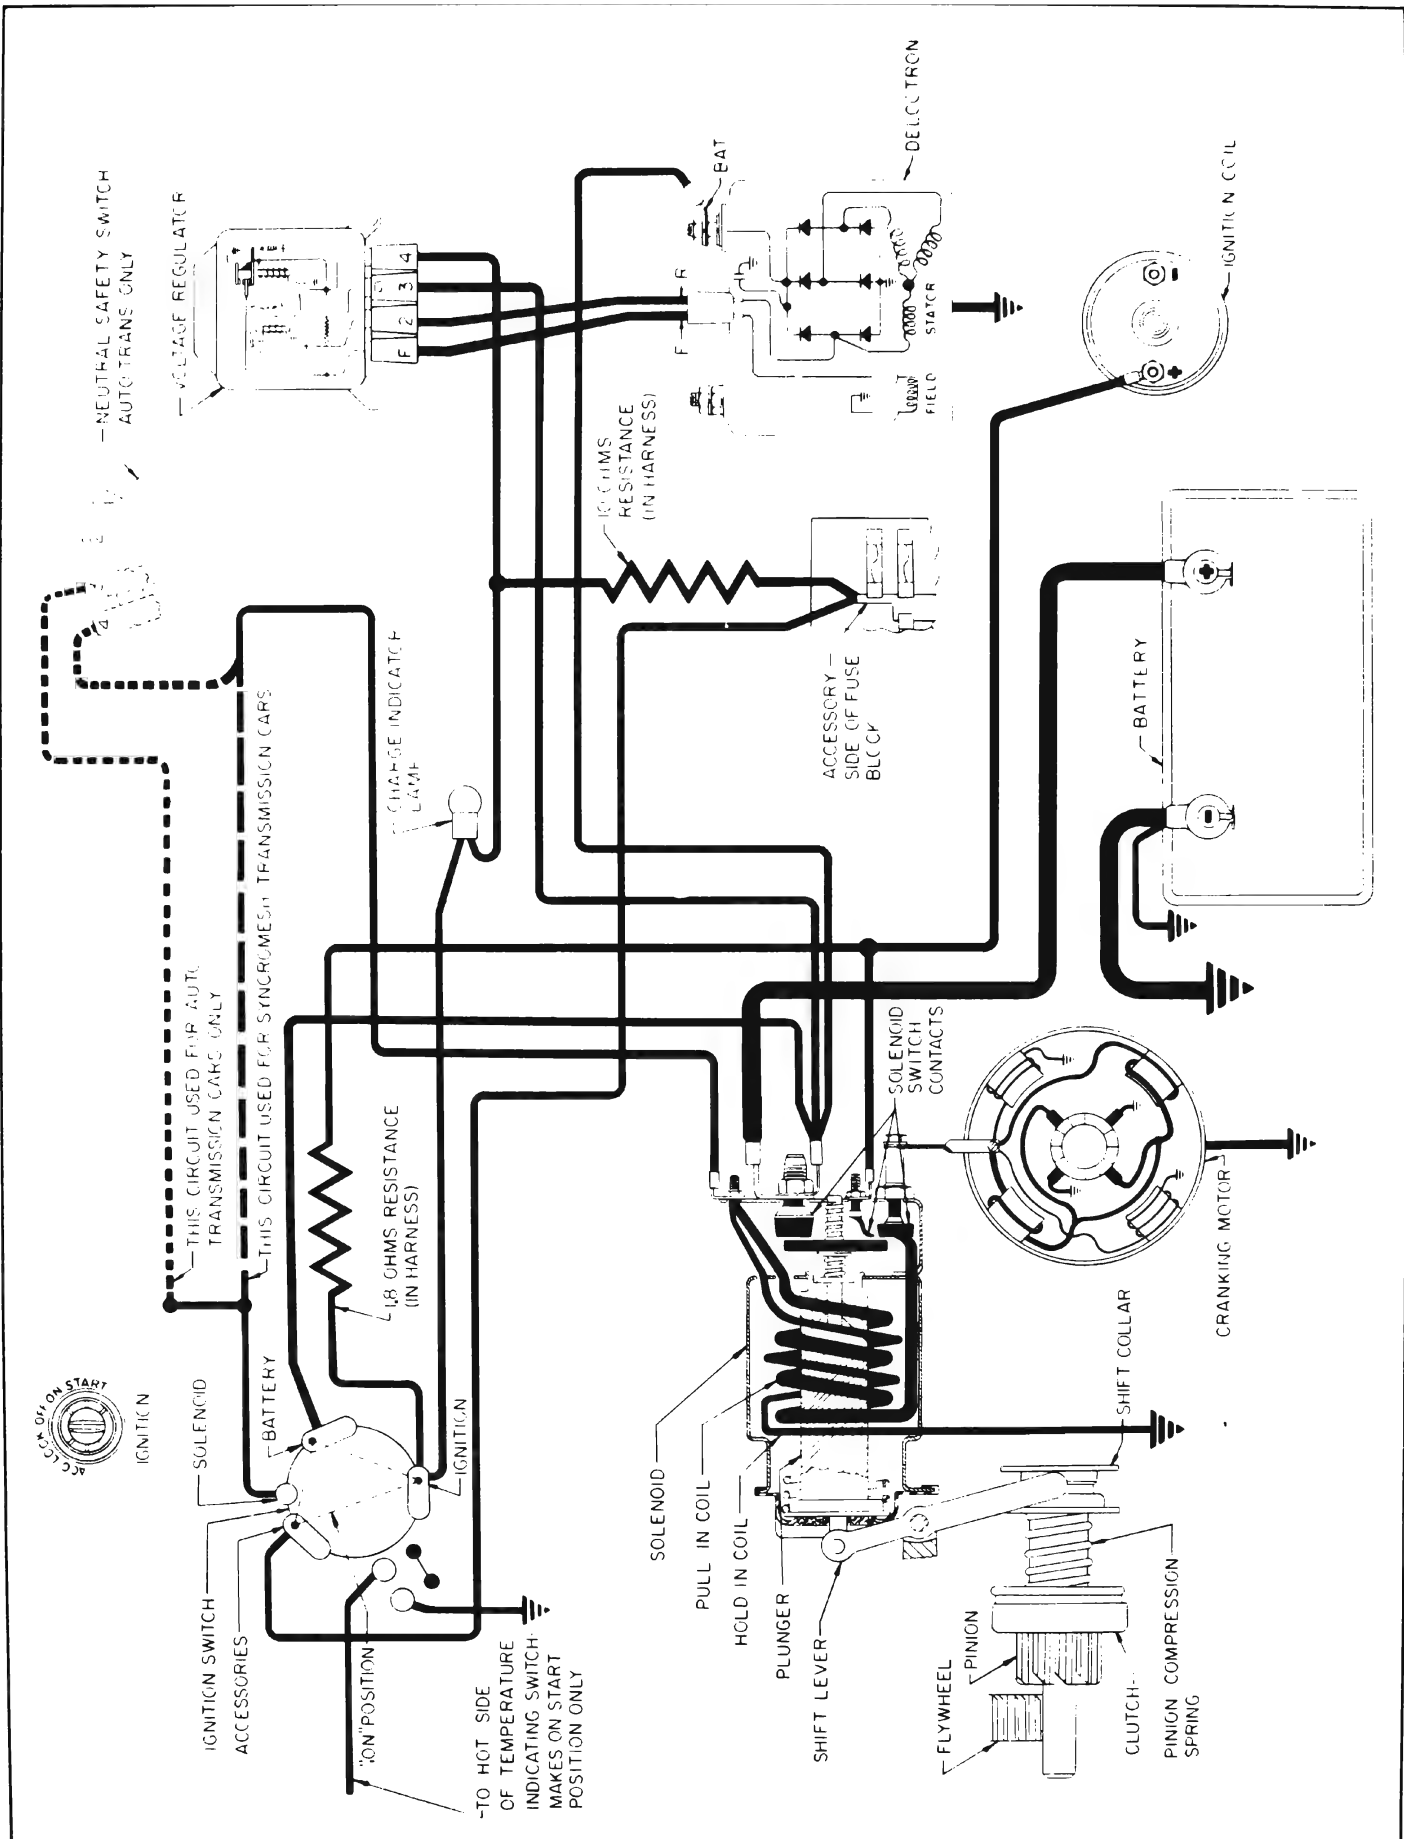

Figure 10-24—Starter and Generator Circuit Diagram - 4400 Series
The cranking system, shown schematically in Figure 10-24, is composed of the following units:
possible gear clash. See Figure 10-24.
The closing of the solenoid switch contacts causes the motor to crank the engine and also cuts out the "pull-in" coil of the solenoid, the magnetic pull of the "hold-in" being sufficient to hold the pinion in mesh after the shifting has been performed. This reduces the current consumed by the solenoid while the cranking motor is operating. See Figure 10-24.
4. Slowly adjust resistance until voltmeter reads 10 volts and note ammeter reading. This shows current draw of both windings in parallel, and should be 41 to 47 amperes (large starter) or 42 to 49 amperes (small starter). See Figures 10-24 and 25 for diagrams of solenoid circuits.